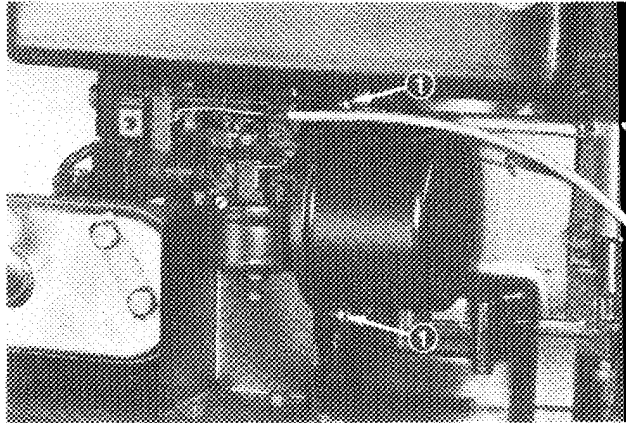

Figure 16
2. Loosen two screws securing air cleaner assembly in place (Fig. 16).